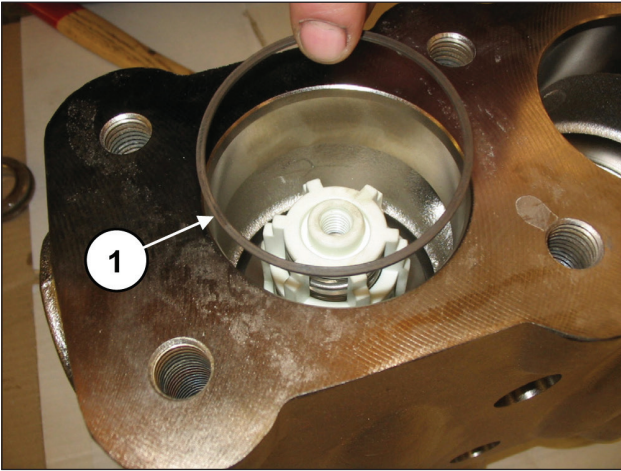

Fig. 109
Insert the back-up ring, exploded view pos. 16 (pos. ①, Fig. 109).